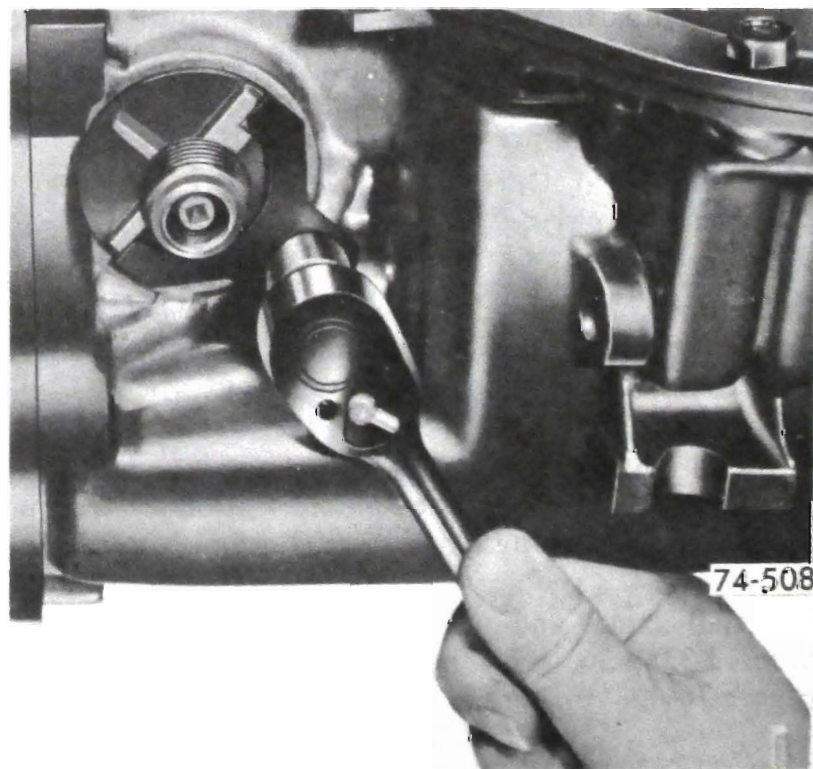

Figure 76-45
3. Remove speedometer driven gear attaching bolt and retainer. See Figure 76-45.